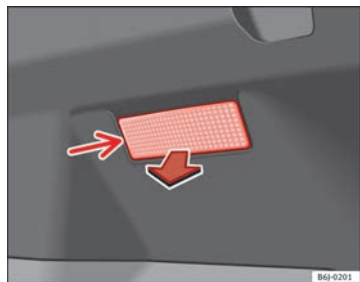

Fig. 176 Luggage compartment light
- Extract the tulip shaped fitting by pressing on the inside edge of this -arrow- using the flat side of a screwdriver ⇒ fig. 176.